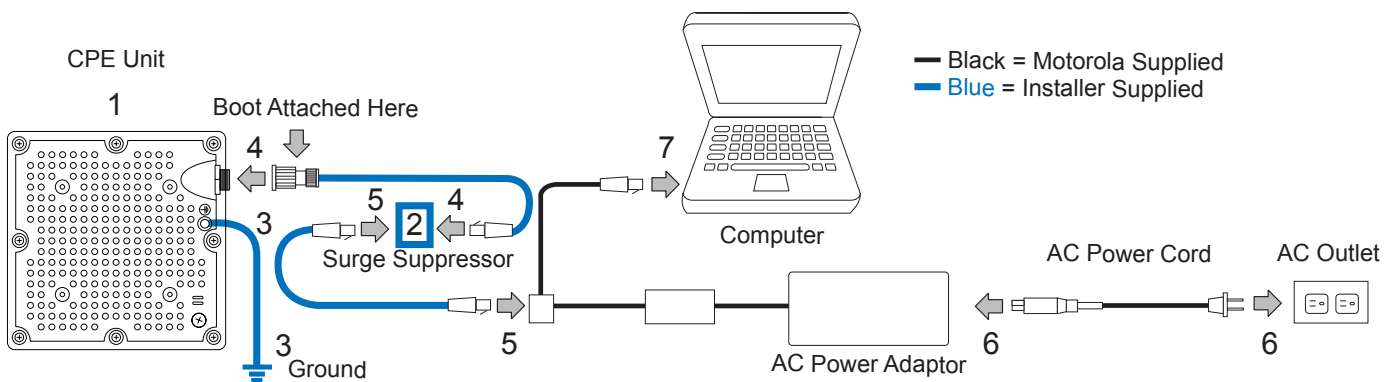

Figure 1
4. Attach the boot on the outdoor Ethernet cable connector as shown in figures 1 and 3. Then connect that outdoor Ethernet cable between the surge suppressor and the CPE unit.
5. Connect an outdoor Ethernet cable between the Connector Box (To Radio) and the Surge Suppressor. (Refer to Figure 1.)
6. Connect the AC power cord to the Power Adaptor and then to the AC outlet/power source. (Refer to Figure 1.)